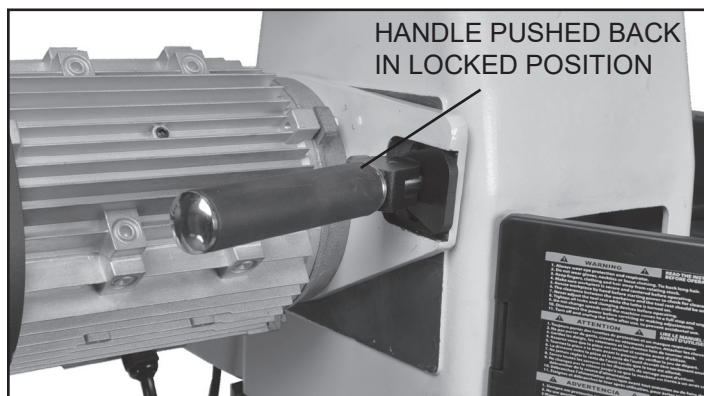

FIG. 30
3. Pull the Belt Tensioning Handle (#B52) forward, away from the motor. Figure 30.
5. With the Poly-V-Belt positioned on the pulleys, raise the tensioning handle so that the weight of the motor provides the needed tension on the belt. Then secure the tensioning handle in place by pushing the handle back towards the motor. Figure 30.
3. Pull the Belt Tensioning Handle (#B52) forward, away from the motor. FIG. 36. (See Page 16, Figure 30 & 31).